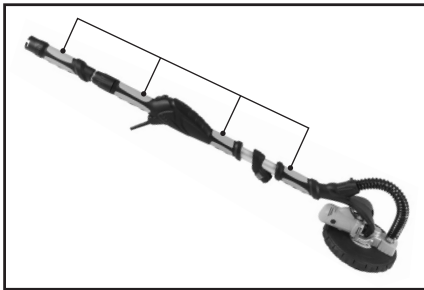

Fig. 11
The Dry Wall Sander should always be held with both hands. Four (4) hand grip areas (Fig. 11) are provided along the main tube. Hold the machine with the most convenient of these hand grip areas, positioning your hands to provide the best combination of reach and leverage for the intended application.